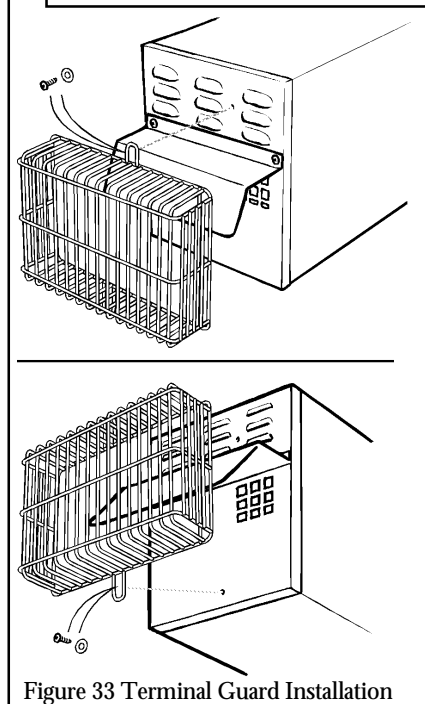

Figure 33 Terminal Guard Installation
10.3 Fit the terminal guard (see figure 33). Secure the guard at the bottom and at the top between the two right hand columns of louvres using screws included in the fixings pack and the washers which were holding the guard to the convection box for transit (see section 4.3).